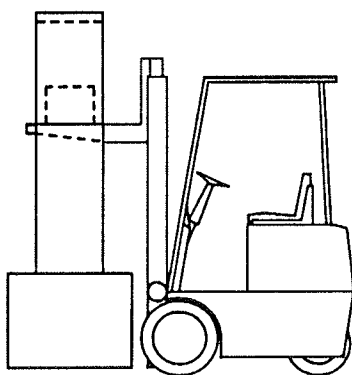

Figure 3-7. Lifting Under the Crosshead
- Use a forklift with padded forks to lift the load frame from under the crosshead as Figure 3-7 illustrates.